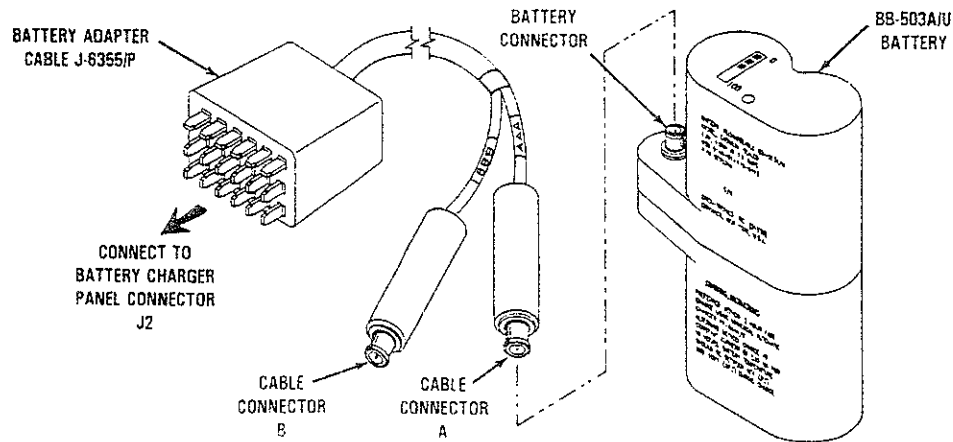

Figure 2-3. BB-503A/U Battery Charging Connections
(1) Rechargeable batteries do not have a Complete Discharge Device (CDD) button.
(2) Type designation for rechargeable batteries is "BB". Type designation for non-rechargeable batteries is "BA".
(3) The State of Charge indicator for the rechargeable batteries, except the BB-516A/U, is an LCD that, when lit, shows a series of black bars (five bars maximum for a fully charged battery). The BB-516A/U State of Charge indicator is an LCD that is visible through five apertures in the battery top cover. The new non-rechargeable batteries will have a State of Charge indicator that will consist of two green lights. The BB-516A/U has white lettering only. The BB-503A/U has black lettering only.
(4) The BB-390A/U and BB-388/U batteries have three white stripes silk-screened on the battery front cover to indicate that they are Nickel Metal Hydride rechargeable batteries. Their non-rechargeable battery counterparts have no stripes.
(5) The BB-2847/U batteries have three yellow stripes on the front cover and all-yellow lettering silk-screening to indicate that they are Lithium Ion rechargeable batteries. Their non-rechargeable battery counterparts have no stripes.
Step 1. With battery adapter cable installed, connect battery to be charged to battery charging cable connector A, figure 2-3. Observe that CHARGE (amber) indicator for position A is lit; CHARGE indicator for position B will continue to blink if position B is empty. If two batteries are being charged in positions A and B both CHARGE indicators will be lit. If red FAULT indicator (A or B) is lit, battery may be defective. Check by removing battery and adapter, then reconnect adapter and battery. If FAULT indicator again lights, discard battery via Defense Reutilization Management Office (DRMO) in accordance with local regulations.